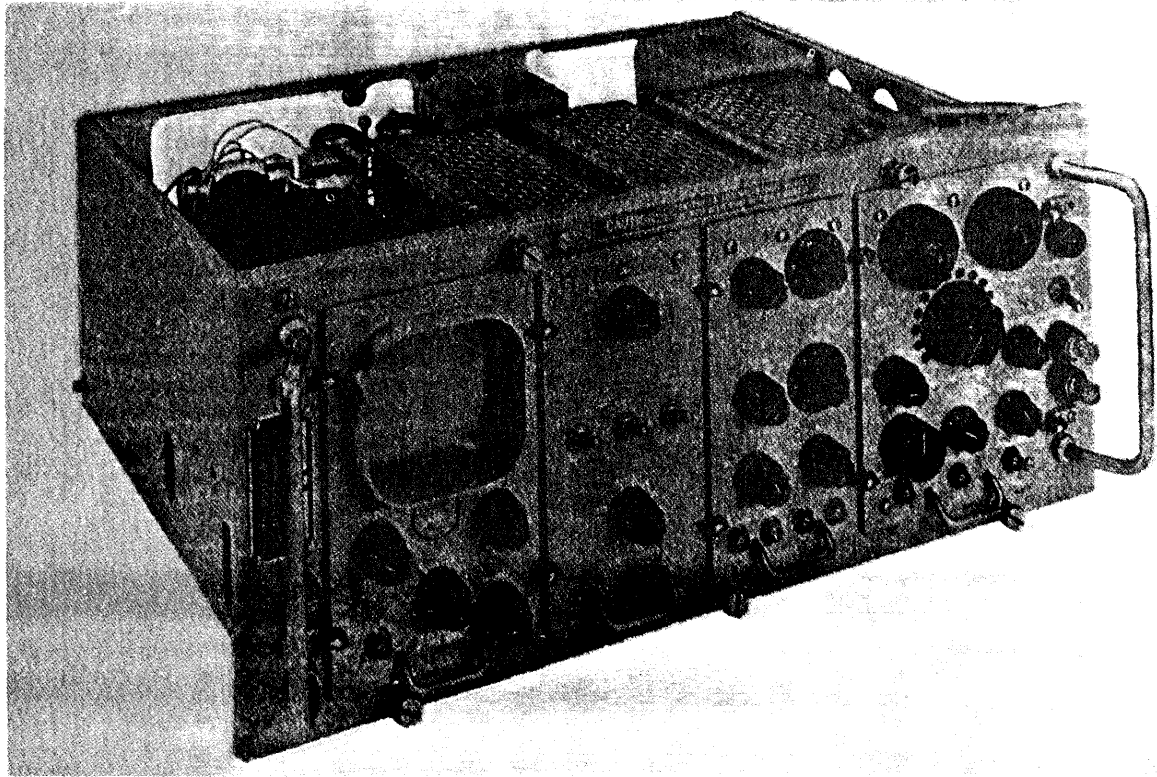

Figure 1-2. Radar Test Set TS-1253A/UP or TS-1253B/UP
a. RADAR TEST SET. - The Radar Test Set upper unit, shown in figure 1-2, provides simulation of the coded reply pulse trains produced by SIF transponders. It also provides oscilloscope facilities for video analysis and signal tracing. It contains the following plug-in units:
(1) DISPLAY UNIT. - This unit provides an "A" type display of the video signals on a 4-inch cathode ray tube. A graduated scale on the CRT face